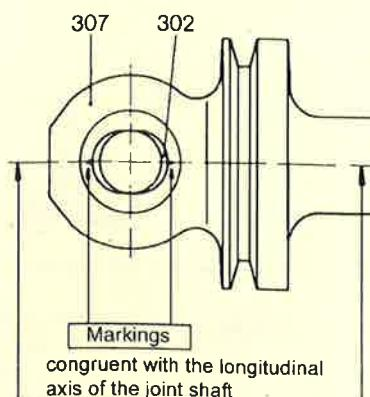

Figure 7: Pressing in the joint sleeve
- Drive the sleeve for the joint bolt (303) halfway into the rotor (401) and the plug-in shaft with the brass spike.
- Press the joint bush (302) into the joint shaft (307) in such a way that the longitudinal axis of the oval boring (marked by 2 notches) aligns with the longitudinal axis of the joint shaft and that the joint sleeve protrudes evenly on both sides of the joint shaft. Not available with AEB1L 51, AEB1L 101, AEB1E 50, AEB2E 50, AEB1N 25, AEB2N 25, AEDB1E 75, AEDB 2N 38, AEB4H 12 (see figure 7).